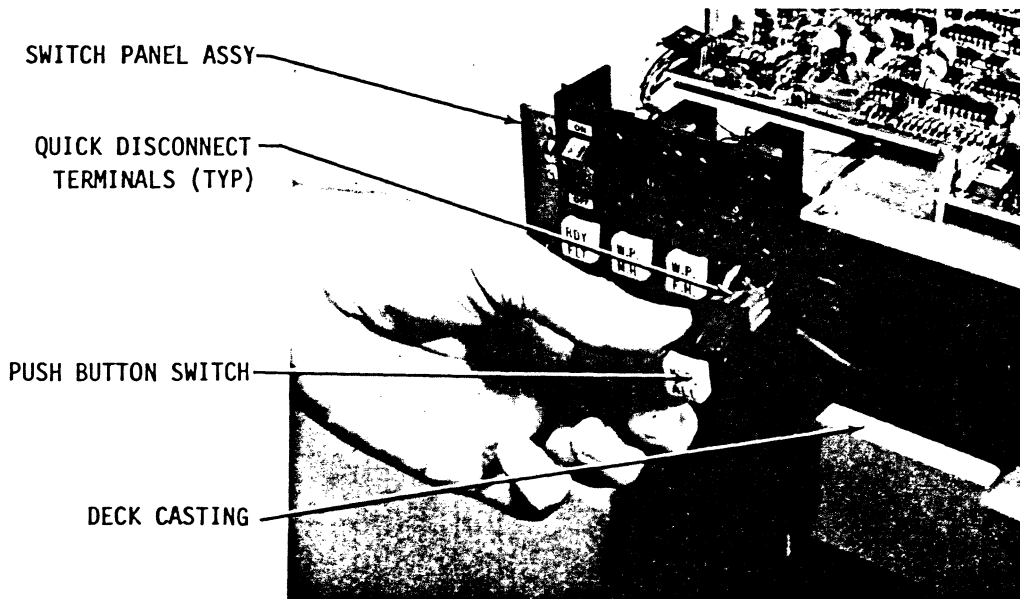

Figure 5-38
- c) Push on rear of defective unit until it snaps out of mounting bracket as shown in Fig. 5-38.